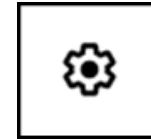

Figure 15
1. Find and tap the Settings icon on the Android device (Figure 15).